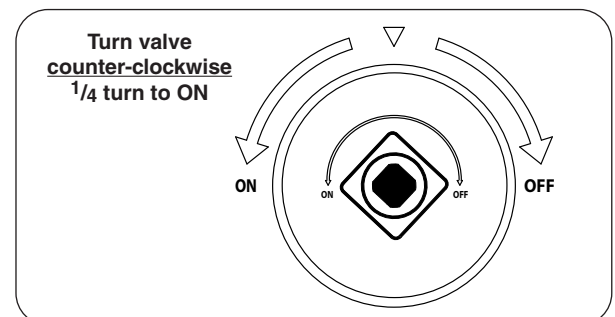

Fig. 43-2 ON/OFF key valve detail
3. Turn the ON/OFF key valve counter-clockwise a  $1/4$  turn to the **ON** position (Fig. 43-2).